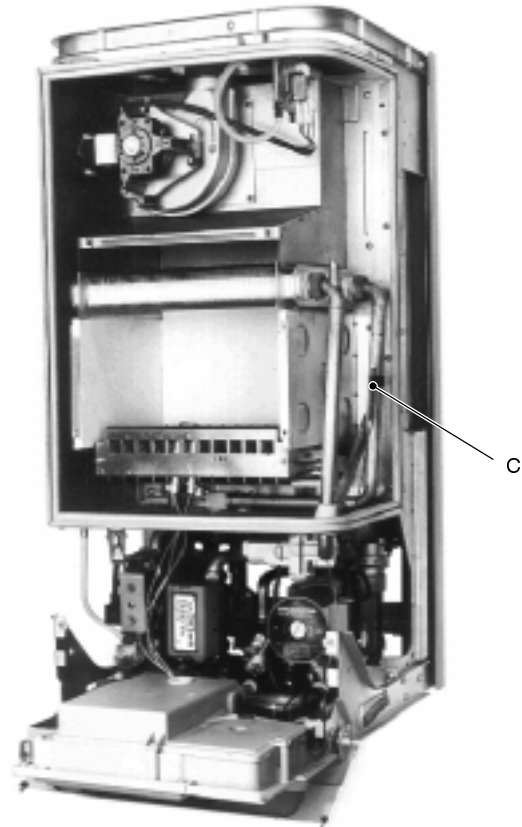

fig. 89
- the temperature probe *C* which is fitted on the outlet pipe of the main heat exchanger (fig. 89)
Verify the soundness of the fitting between the main circuit pipe and the temperature probe C (fig. 89)